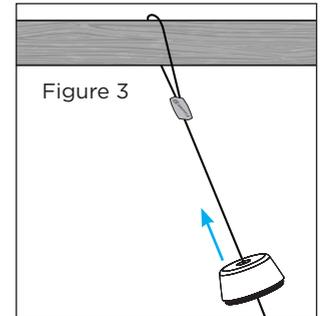

Figure 3
2. Thread cable through top cover of speaker (see Figure 3).